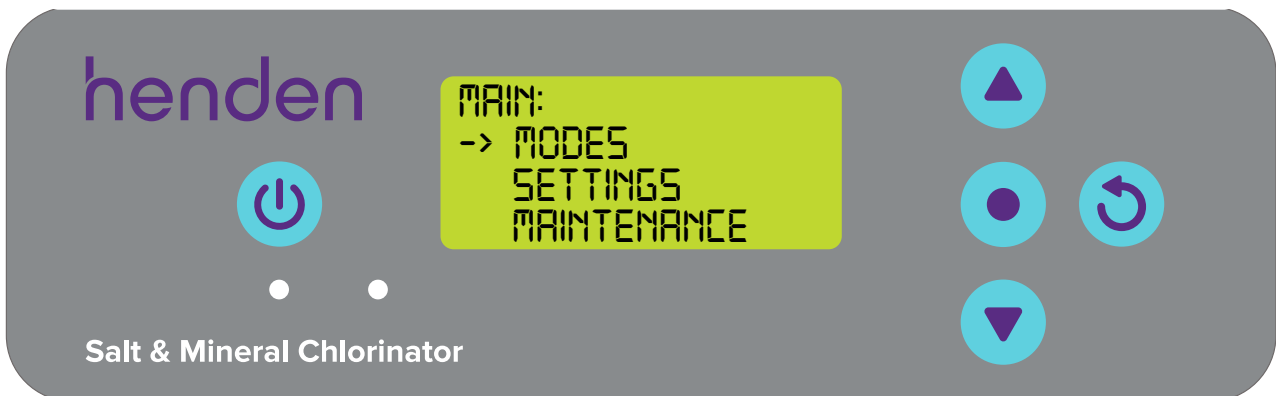

Figure 8.42
- From the **HOME SCREEN**, press the  **menu/setting select** button. This will now show the main menu (Figure 8.42)